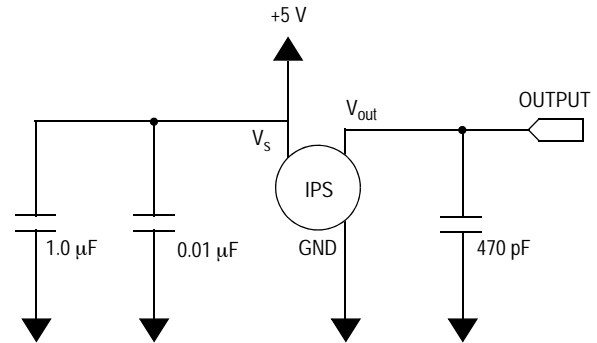
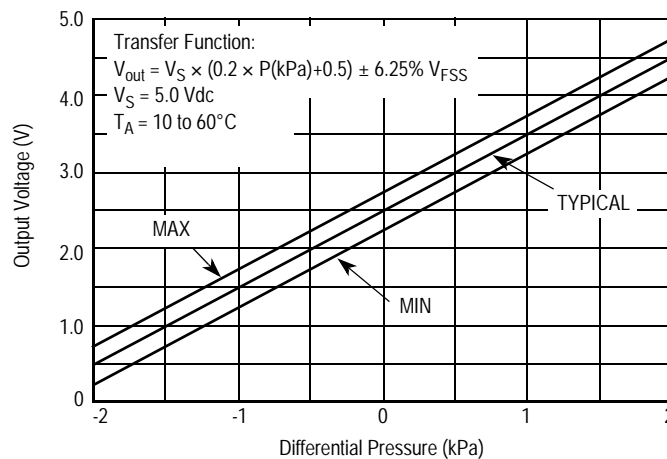

Figure 3. Recommended Power Supply Decoupling and Output Filtering
Figure 4. Output versus Pressure Differential
**Table 2. Operating Characteristics** (VS = 5.0 Vdc, TA = 25°C unless otherwise noted. Decoupling circuit shown in Figure 3 required to meet specification.)
Figure 3 shows the recommended decoupling circuit for interfacing the integrated sensor to the A/D input of a microprocessor or microcontroller. Proper decoupling of the power supply is recommended.
Figure 4 shows the sensor output signal relative to pressure input. Typical, minimum, and maximum output curves are shown for operation over a temperature range of 10° to 60°C using the decoupling circuit shown in Figure 3. The output will saturate outside of the specified pressure range.